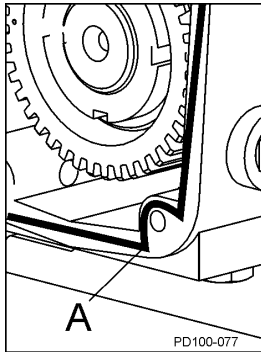

Figure 76 - Sealant Placement
3. Apply silicone sealant to the back of the gear case. (Gore-Tex® sealing tape can be used on silicone-free models.) Place the tape on the inside of the screw holes (Figure 76, item A).